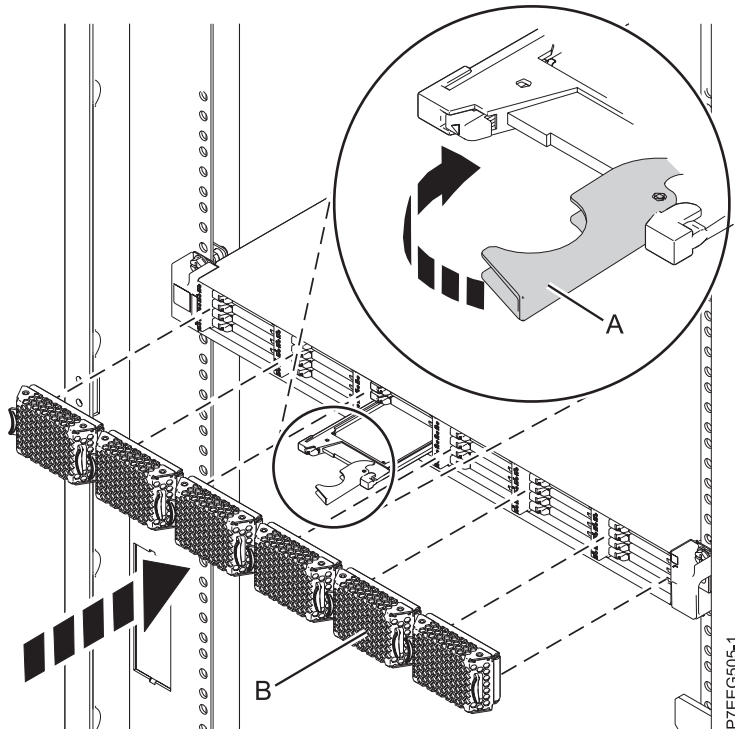

Figure 9. Installing a solid-state drive in the EDR1 PCIe storage enclosure
1. With the handle in the unlocked position, align the solid-state drive with the guide rails in the enclosure. See Figure 9 on page 18.